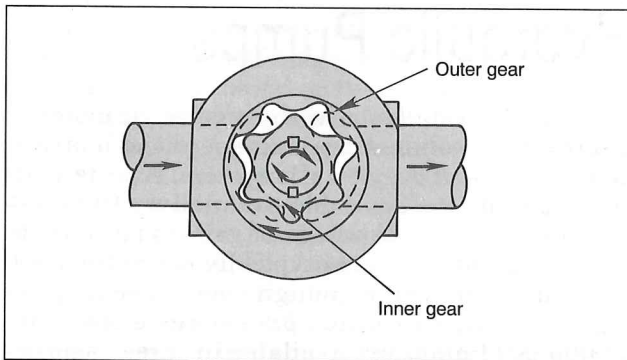

Fig. 9-4 — The inner gear has one tooth less than the outer gear in this gear-within-gear pump. Relative motion between the two causes pumping action.
**Gear-within-gear pumps.** This variety, Fig. 9-4, consists of an externally toothed gear that rotates inside and drives a larger internally toothed gear. In one common configuration, the gerotor pump, the inner gear has one tooth less than the outer gear. Here, as the inner gear drives the outer one, the relative motion of the gear teeth